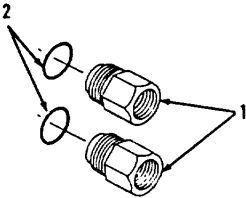

Figure 10-116.
- 11. Install two new preformed packings (2) on two adapters (1, Figure 10-116).